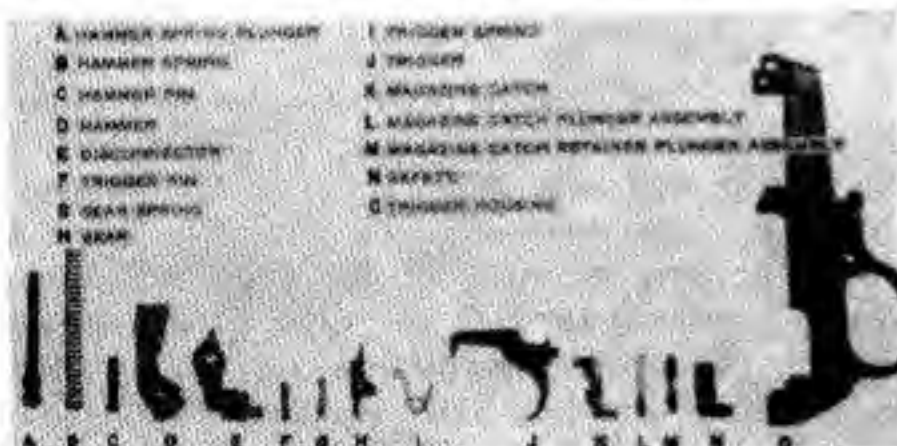

Figure 25. Layout of the parts of the trigger housing group.
g. In Figure 25, you see the parts of the trigger housing group laid out correctly in the order of disassembly.